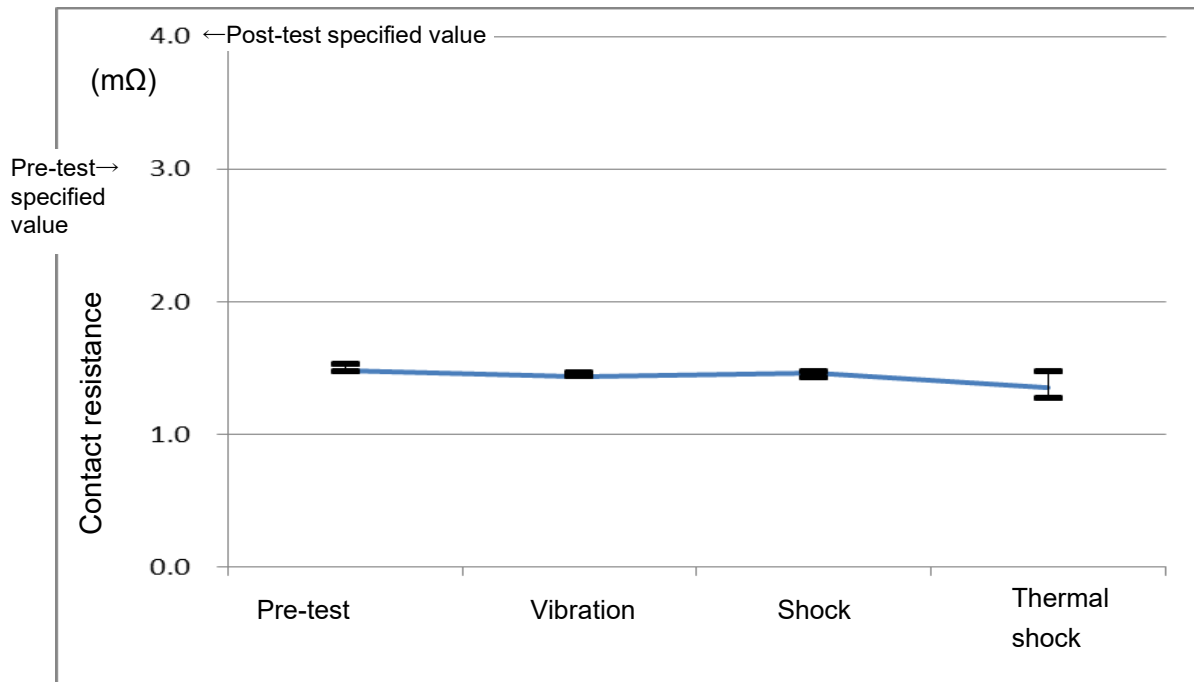

Figure 8. Contact Resistance in Environmental Limit Test
(1) External, dielectric withstanding voltage, instantaneous interruption Tables 8 and 10
(2) Contact resistance Tables 9, Figures 8 and 9